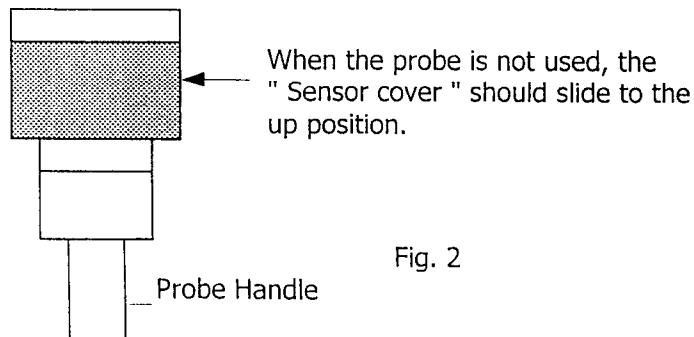

Fig. 2
- a. *When slide the sensor cover of " Sensing Head " (3-20, Fig. 1) to the up position to let the air velocity sensor isolated from the environment (refer Fig. 2).*